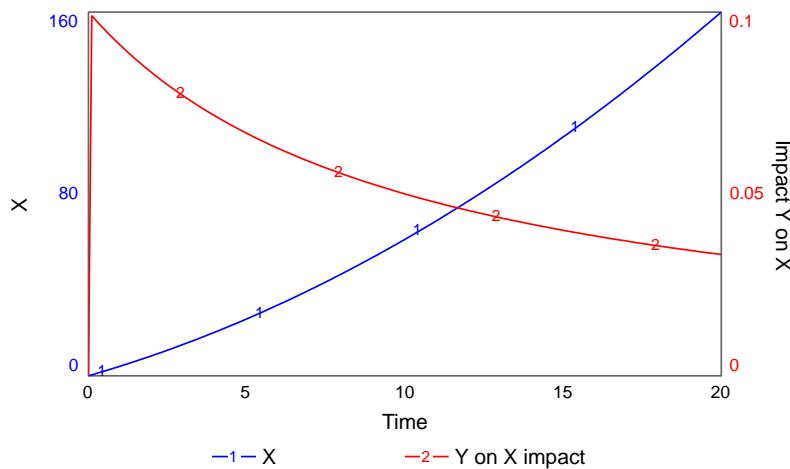

Figure 8: Stock X with impact of Y on X
- Plot *Y on X impact* on a graph along with X, and place it on the right-hand axis (checkbox in graph dialogue box), Figure 8: